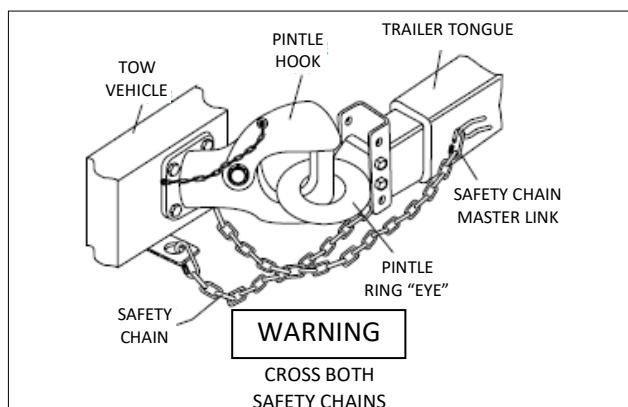

Figure 2-H. Attaching safety Chain (Pintle Hitch)
- OPEN the pintle hook locking mechanism (Figure 2-H). Place the hook inside the eye coupler. CLOSE the pintle hook mechanism.